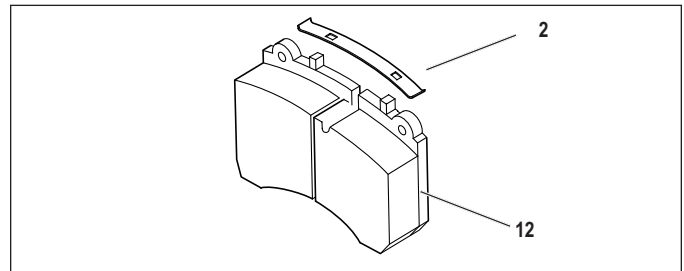

Figure 39 – Pad Retaining Spring Installation
5.2.15 Install the pad retaining springs(2) onto the brake pads(12) by inserting one end of the spring onto the lug at the top of the brake pad (See Figure 39). Carefully apply enough force to permit the second lug to fully engage, taking care to keep fingers etc. away from the spring as it seats.